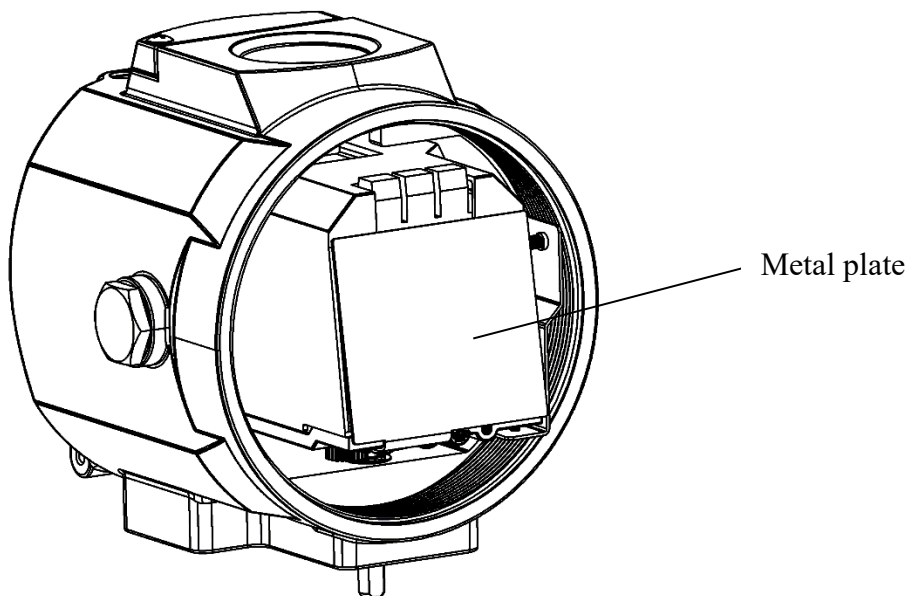

Figure 29. Internal metal plate
- Install the feedback module according to the position shown in Figure 29, and connect electrical connectors of the module with the connectors on the circuit board according to the